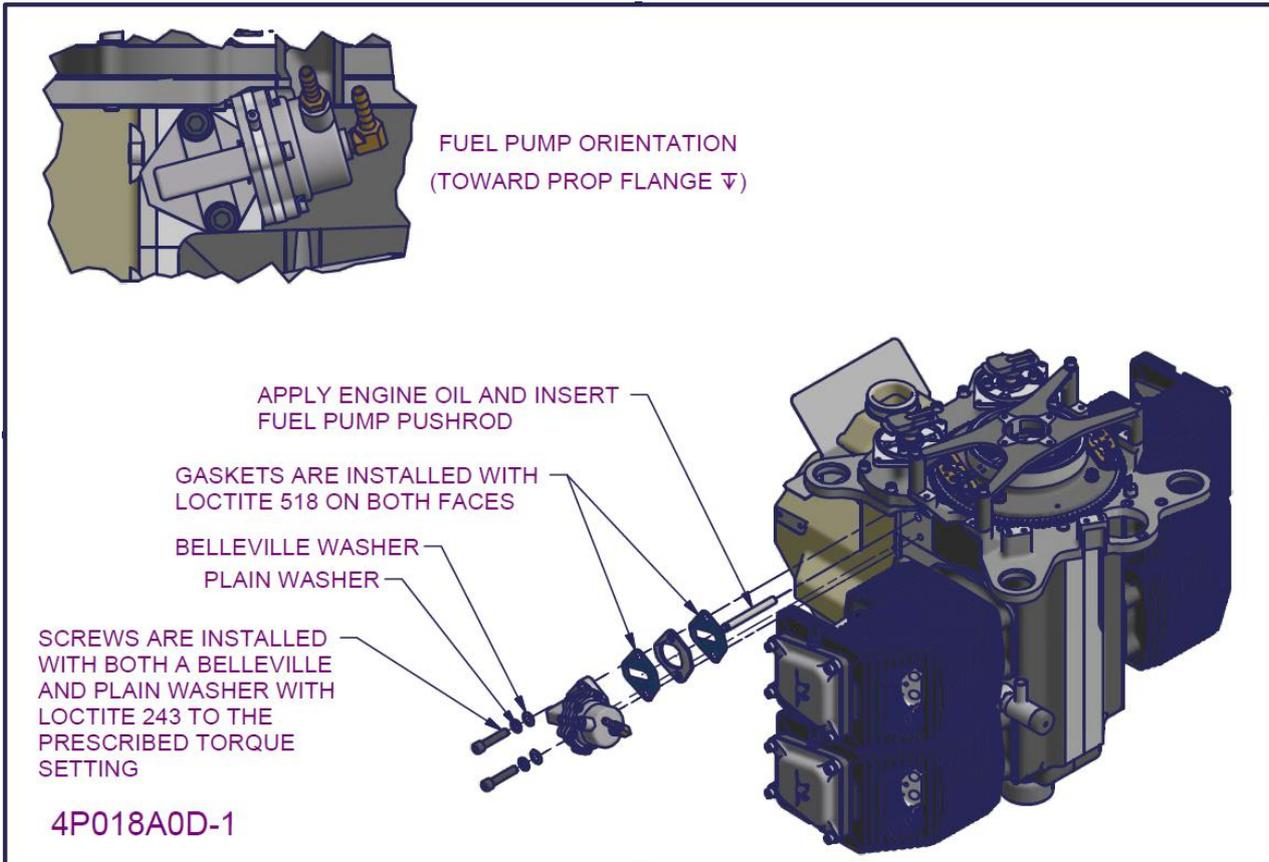

Figure 154 – 2200/3300 Fuel pump installation 1
- Install the fuel pump with the two gaskets and white spacer in the order shown in Figure 154.